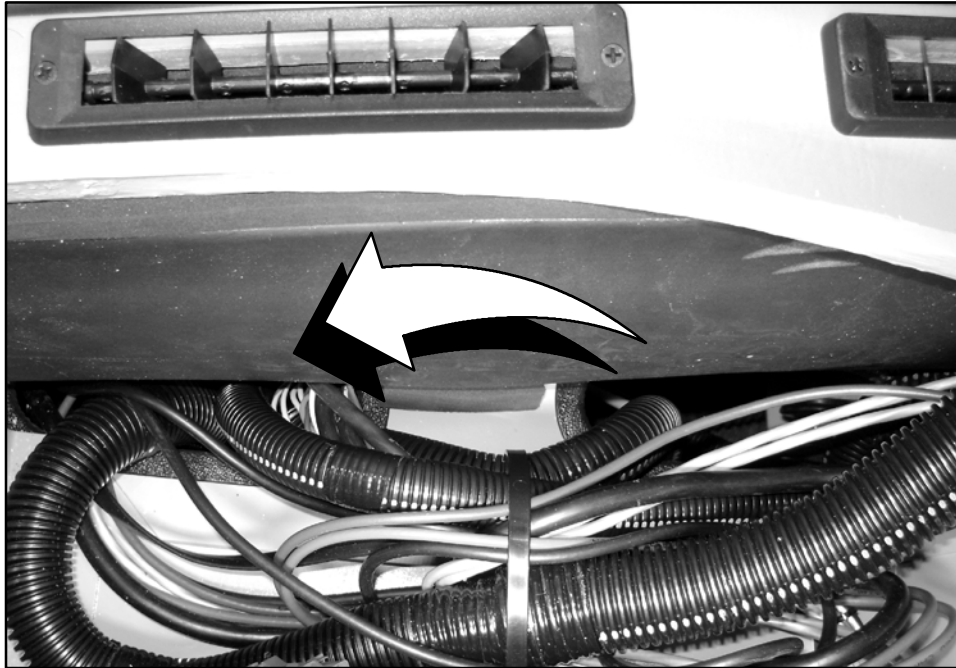

Figure 9. Top view of dash, looking down
28. Route the disconnected harnesses to the LH (roadside) of the steering column bracket by routing up through the curbside provision hole on top of the dash over to the roadside provision hole (refer to Figure 9).